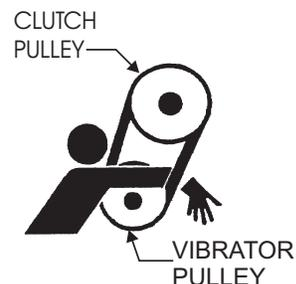

Figure 24. V-Belt Hazard
**NEVER** attempt to check the V-belt with the engine running. Severe injury can occur if your hand gets caught between the V-belt and the clutch (Figure 24). Always use safety gloves.